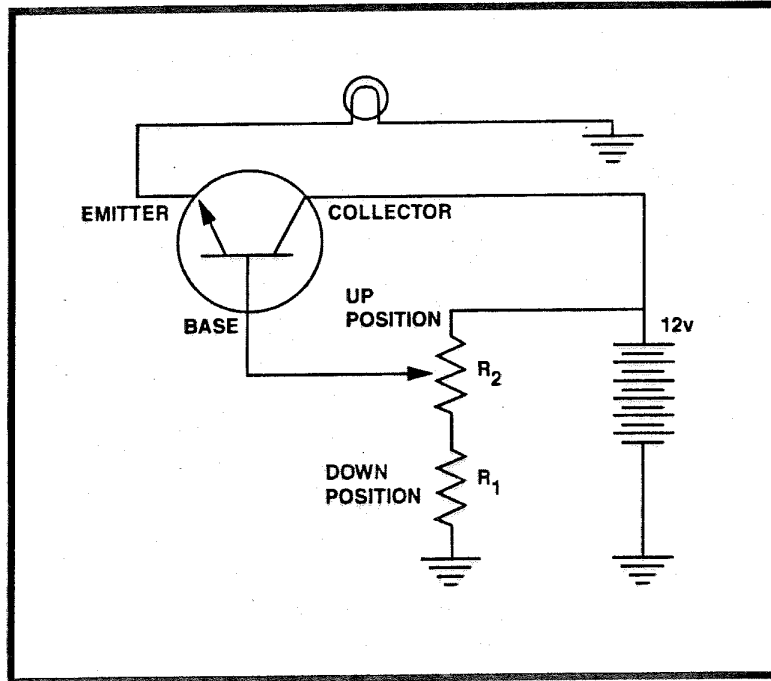

Fig. 9.14. Transistorized Circuit.
85. (Refer to figure 9.14) If an open occurs at  $R_1$ , the light
86. (Refer to figure 9.14) If  $R_2$  sticks in the up position, the light will